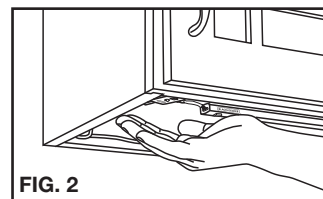

FIG. 2
**Using the Motion Sensor:** Ensure that your hand is within at least 2" of the motion sensor on the mounted control box. Wave your hand in any direction underneath the control box to turn the power on and/or off. (See **FIG. 2**)